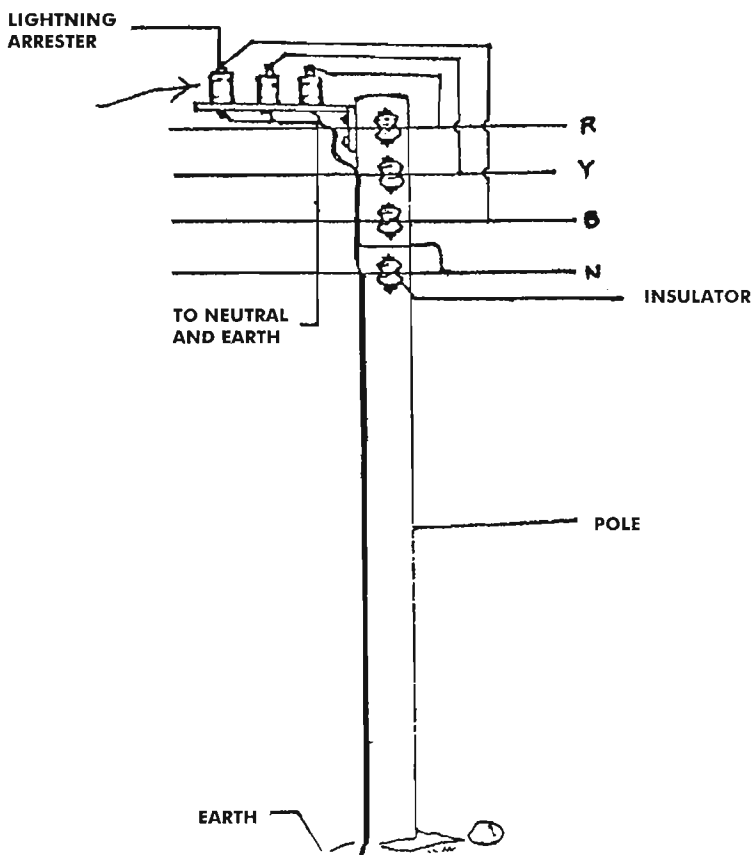

Figure 6.9: Installation of Lightning Arresters
During storms, high voltage from lightning can come into contact with the transmission and distribution lines. If not prevented, this voltage will transmit across the coils of the generator and its body, causing a short circuit and damage. Therefore, it is necessary to provide earthing for this high voltage to discharge before it reaches the generator. This earthing is provided by a lightning arrester connected between phase and earth. In the case of three-phase transmission, a separate arrester is needed for each phase and the earth as shown in Figure 6.9. A 0.5kV lightning arrester will be sufficient for low-tension transmission, but a higher voltage rating is required for high-tension transmission.
- Mount a frame on the pole and fix the lightning arrester to it (Figure 6.9). If more than one lightning arrester is to be used, the distance between two arresters should be at least 100mm.